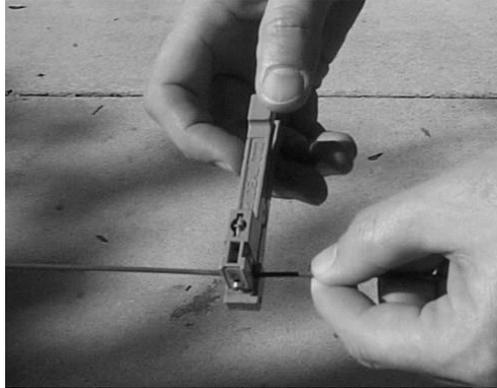

Figure 8 – Score the buffer tube at the proper length.
4.9 Use a 2.0 mm (1 – 12 fibers) or 3.0 mm (24 fibers) diameter buffer tube removal tool to score the buffer tube at the proper location (Figure 8).